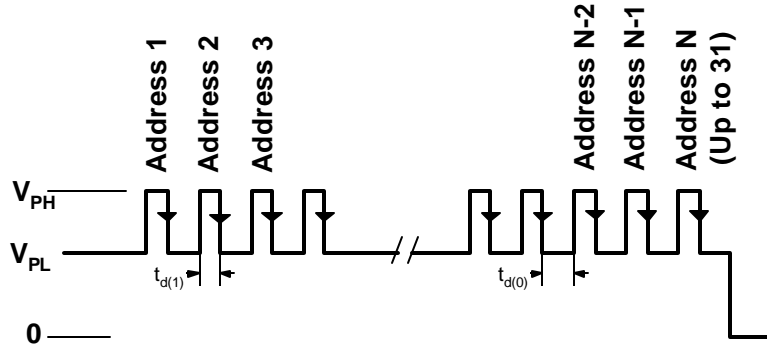

Figure 2. Sequential selected addresses.
**Addressing.** The magnetic operate point (Bop) is adjustable using 5 bits or 31 addresses. The 31 addresses are sequentially selected (Figure 2) until the required operate point is reached. Note that the difference between Bop and the magnetic release point (Brp), the Hysteresis (Hys), is fixed for all addresses.